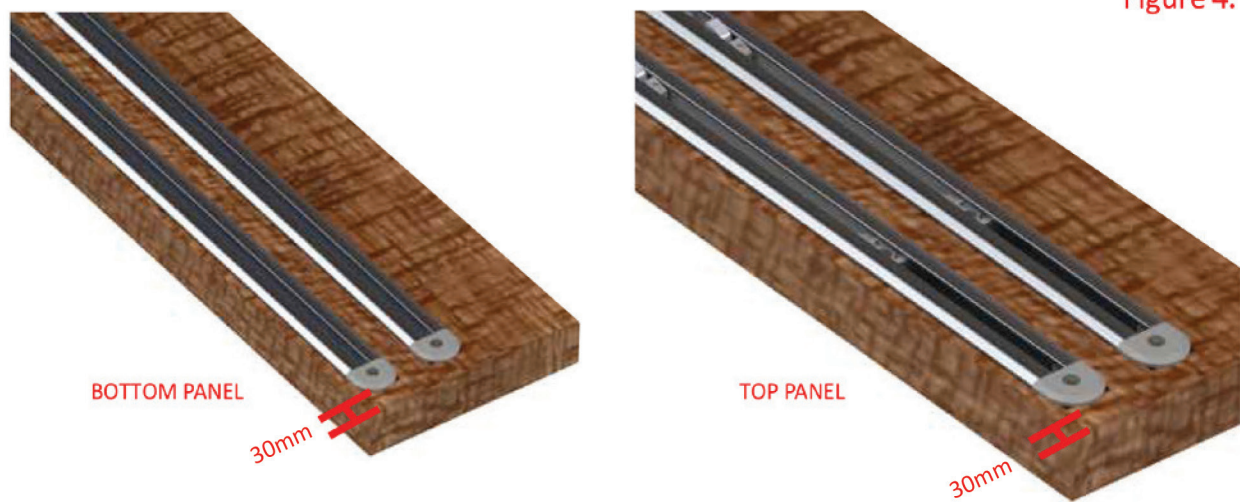

Figure 4.
2. Tighten the Track end stops to fix, as guided in **Figure 4**.